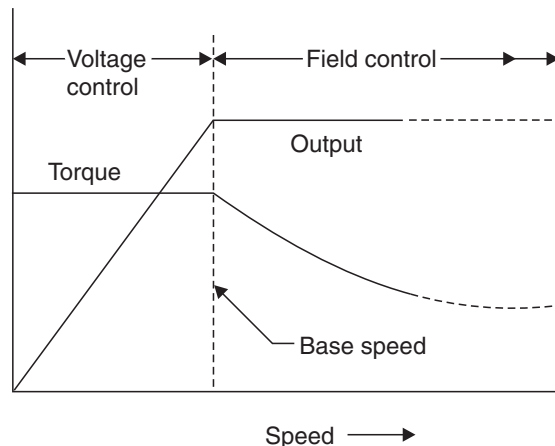

Fig. 78
- *Since, voltage across the motor remains constant, it continues to deliver constant output*. This characteristic makes this method suitable for fixed output loads. The performance curve of a D.C. motor with voltage and field control is shown in Fig. 78.